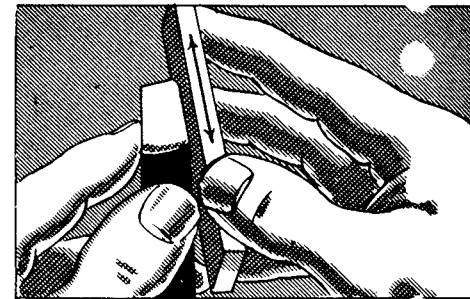

FIG. 578
2. Rub the flank of the tool on the stone (Fig. 577) until the cutting edge on the side is smooth, or rub the stone over the flank of the tool (Fig. 578).